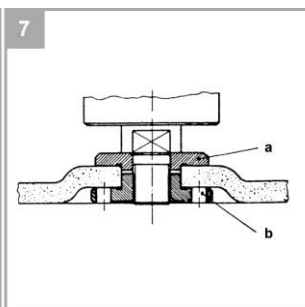

Fig.7
- Flange arrangement when using a depressed-centre or straight grinding wheel (Fig. 7)